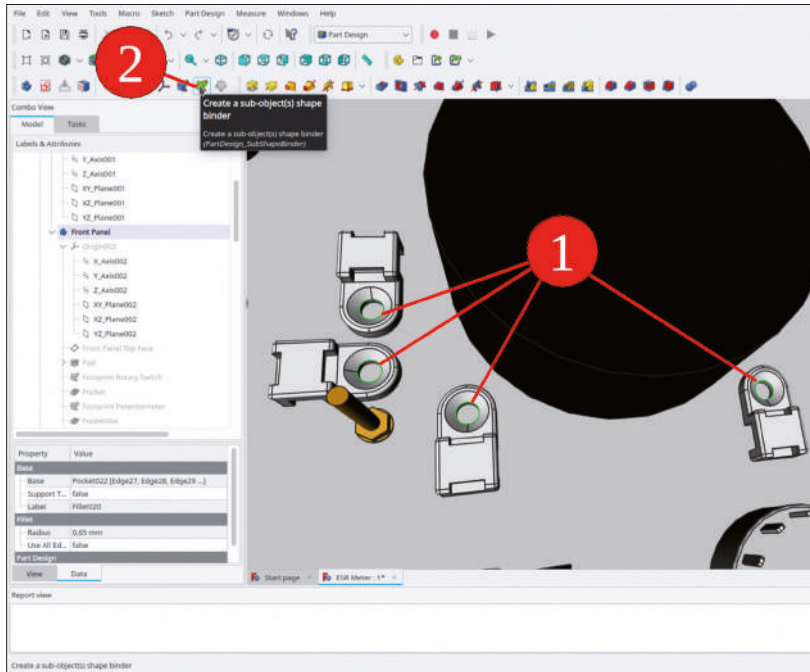

Figure 7-47
11. Mark the edges of the holes in the anchor plates. Then, click the 'Create a sub object(s) shape binder' tool button (Figure 7-47).